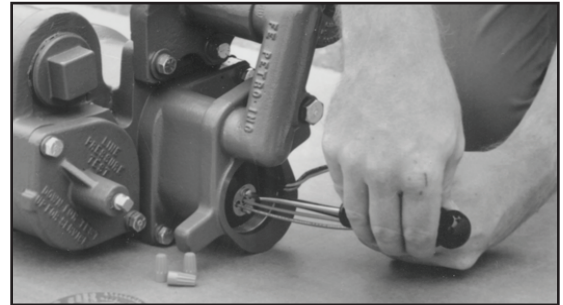

Figure 11: Attach Contractor's Plug
22. Using the screwdriver slide the contractors plug into its seat in the discharge manifold. Tighten the two screws in the contractor plug to secure it in place (Figure 11).